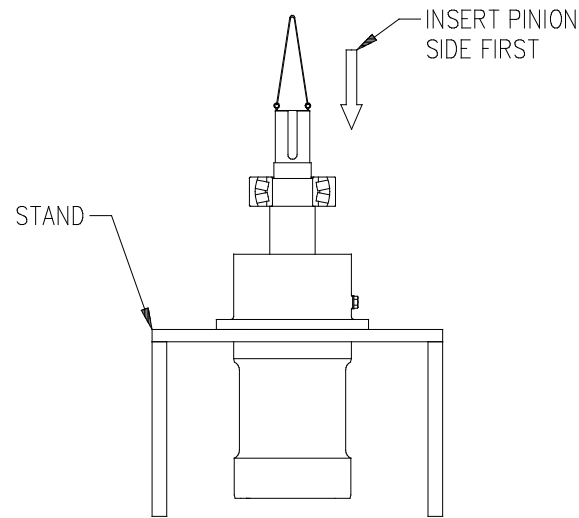

Fig. 6.10.3
7. Install the shaft into the sleeve, pinion side first. (Fig. 6.10.3)